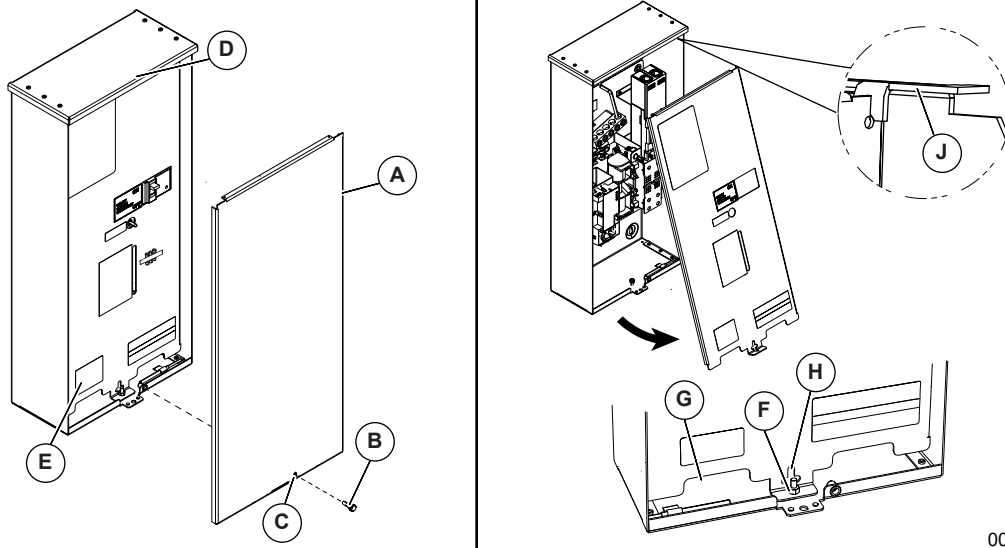

Figure 3-1. Open Enclosure
1. See Figure 3-1. Remove outer cover (A):
- a. Remove thumb screw (B).
- b. Slide slot (C) over retention tab.
- c. Lower cover until clear of top flange (D), and pull away from enclosure.
2. Remove inner panel (E):